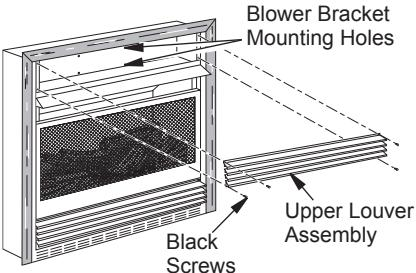
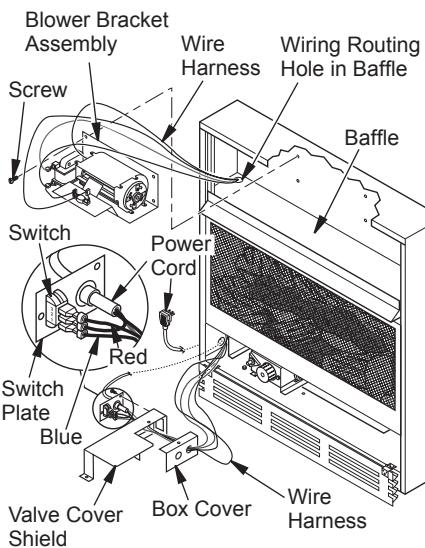

Figure 15 - Removing Upper Louver Assembly
Figure 17 - Installing Blower Bracket Assembly
2. Remove 4 screws from louver assembly (see Figure 15). Save these screws.
3. Note the wire locations on back of AUTO/OFF/ON switch. The terminals on back of switch are numbered 1, 2, and 3. Carefully remove red wire from terminal 1 and blue wire from terminal 3. Black wire can remain on middle terminal 2 (see Figure 17).
sembly to the outer casing with 4 #10 screws provided (see Figure 17).
6. Route the wire harness through the hole in left side of baffle. Pull wire harness through lower opening above where the valve shield was removed. (see Figure 17).
7. Insert the 4 wire harness into one of the round holes in the rear of the valve cover shield and through the rectangular hole in the front of shield (see Figure 17).
9. Install the switch plate on the valve cover shield with 2 #10 screws provided (see Figure 17). Reinstall the valve cover shield. Route power cord out of the cabinet by inserting it through the bushing on the outer casing (see Figure 17). Plug fan kit into 120-Volt grounded power supply and test operation. *Note:* When switch is in the AUTO position, the fan will start after the heater has run for a few moments. The fan will continue to run for several moments after the heater has been turned off. When switch is in the ON position, the fan will run until turned to OFF. Reinstall upper louver assembly and hood if previously removed, (see Figure 15, page 13). Close lower louver door.
8. Reinstall upper louver assembly and hood if previously removed, (see Figure 15, page 13). Close lower louver door.